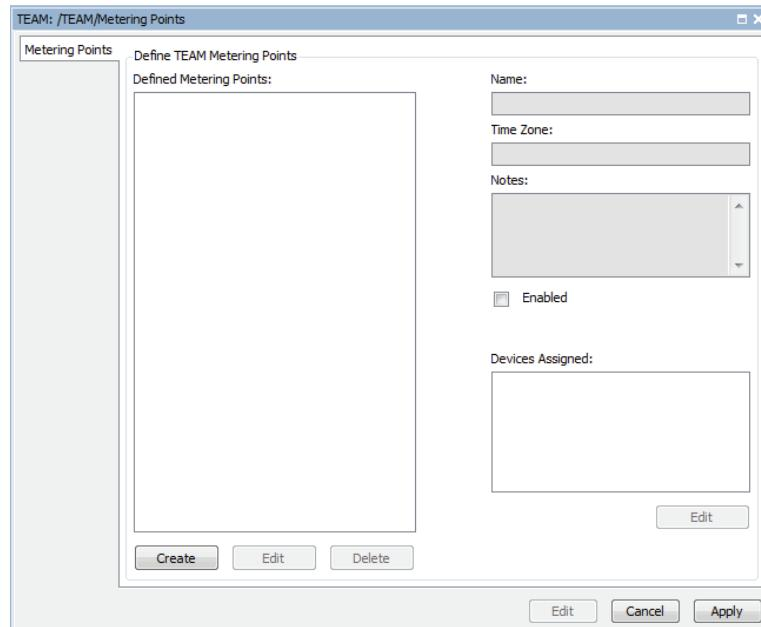

Figure 181 Select Metering Points
- Step 1. Expand TEAM in the Connection Explorer to locate the **Metering Points** node. Double-click **Metering Points** to open the **Metering Points** window shown in *Figure 181*.